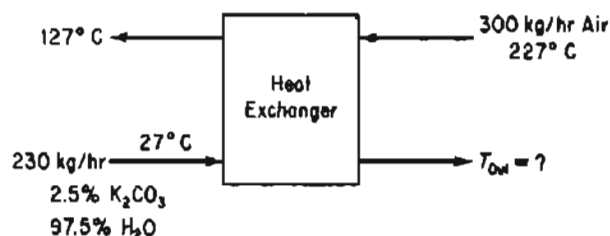

Figure P24.33
- *24.33** Three hundred kilograms per hour of air flow through a countercurrent heat exchanger as shown in Figure P24.33. Two hundred thirty kilograms per hour of potassium carbonate solution are heated by the air. Assume that the heat exchanger has negligible heat losses. The terminal temperatures are given in Figure P24.33. Calculate the temperature, in kelvin, of the exit potassium carbonate stream. Assume that the heat capacity of the potassium carbonate solution is the same as that of the water in the solution.